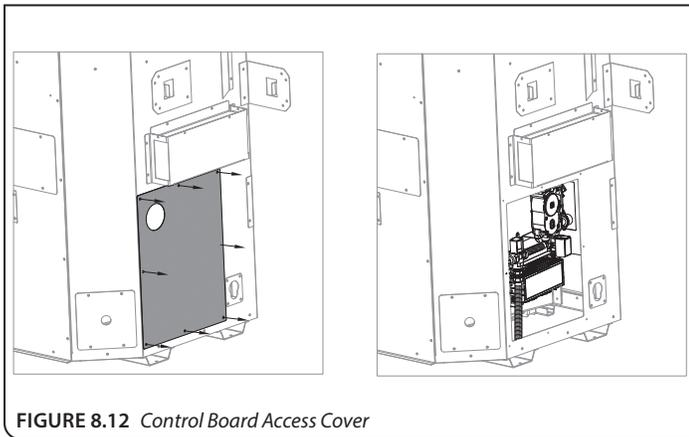

FIGURE 8.12 Control Board Access Cover
For access, remove (8) screws securing cover to the outer shell, as shown in **FIGURE 8.12**. Reinstall when finished.